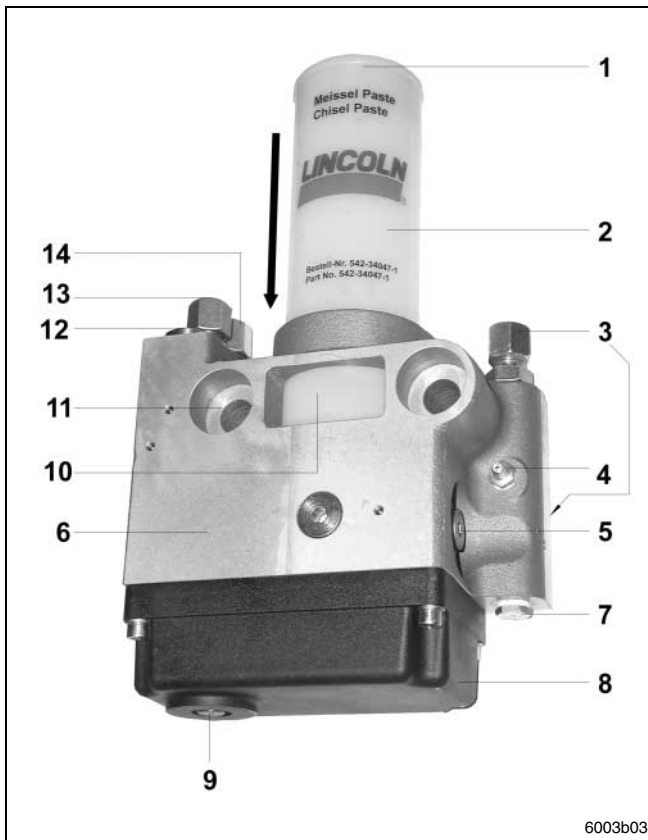

Fig. 1 Components of the Lubrication Pump HTL -101
- is equipped with a visual lubricant level indicator by means of the follower plate of the cartridge. If the follower plate is located in the low-level position of the cartridge (Fig. 1, item 10), the cartridge must be replaced
- is protected by means of a 120 bar pressure relief valve (Fig. 1, item 7) (cartridge)
- is equipped with an easy-to exchange pump element (Fig. 1, item 5)
- is equipped with a lubrication hydraulic fitting (Fig. 1, item 4) for manual lubrication override (e.g. if the hydraulic system fails to operate)
- has three different outlets (Fig.1, items 3 & 7) for the individual grease supply connection of the hammer (unit)
If the lower lubricant outlet connection is used (Fig. 1, item 7), the outlet fitting and the pressure relief valve must be exchanged.